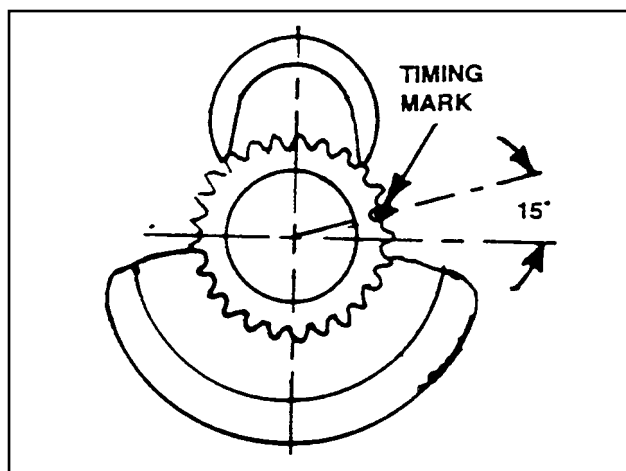

Figure 10. Timing Mark on Crankshaft Gear
4. Rotate the crankshaft until the timing mark (Figure 10) is toward the cam gear side of the crankcase.